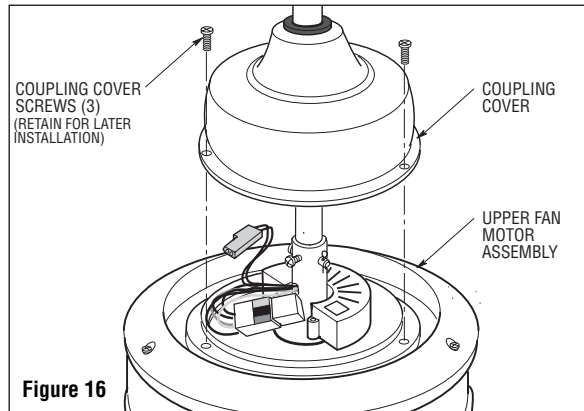

Figure 16
1. Remove the three coupling cover screws and slide the coupling cover up the downrod for installation of light kit assembly (Figure 16). Retain the three screws for later installation of coupling cover.